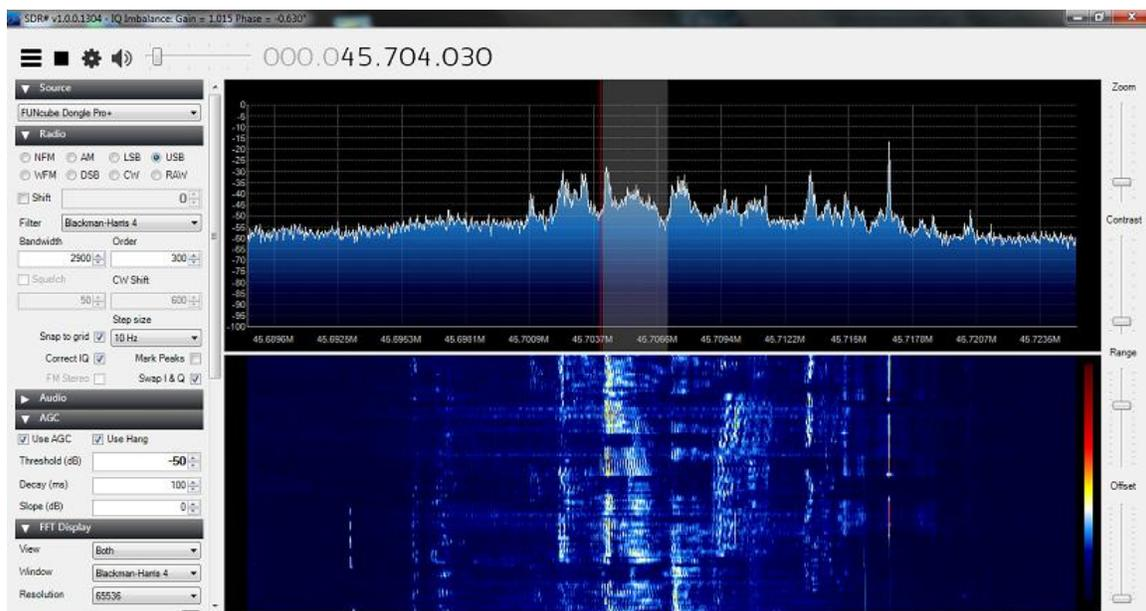

Fig 9 – SDR display with PAT connected as IF Panoramic Adaptor
- 7 Use a length of fine single wire to make the connection between J3009 and the PAT input, and a 200mm length pre-terminated in an SMA plug for the output connection. Dimensions for preparing the ends of the cables are given in Table 1 and Fig 9. Do
In Fig 9, the bandwidth of the display is limited by the IF filter – this is what to expect when you use the J3009 connection for the PAT input (PAT input 1). You can see that the noise level is greater towards the centre of the displayed spectrum. Useful indications of signals can be seen out to approx +/- 25kHz of the frequency that the radio is tuned to. The advantage of this mode is that as you tune the radio, the signals move across the display. Once you have set the IF